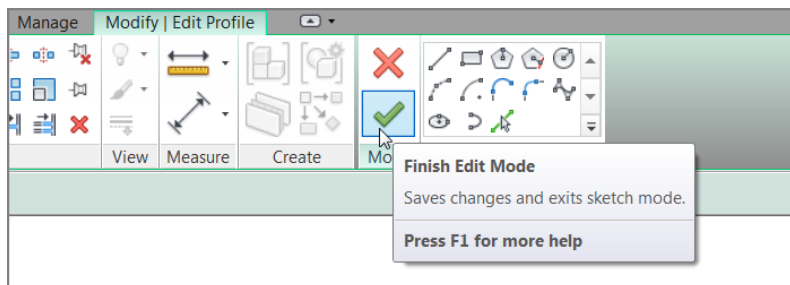

FIGURE 4.42: Click Finish Edit Mode to get back to the model.
6. On the Mode panel of the Modify | Walls > Edit Profile tab, click the Finish Edit Mode button, as shown in Figure 4.42.